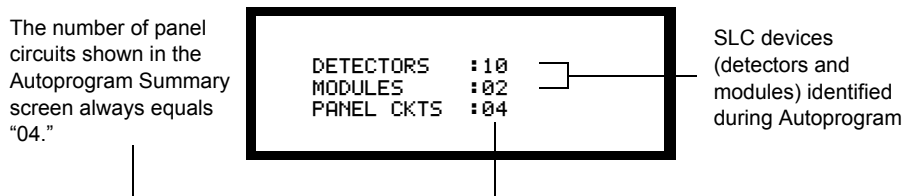

Figure 58 Sample Autoprogram Summary Screen
- Continue displaying and acting on each device. When the control panel completes displaying new devices, the Autoprogram Summary screen is displayed. The Autoprogram Summary screen—see Figure 58—displays the total number of detectors, modules, and panel circuits connected to the control panel.